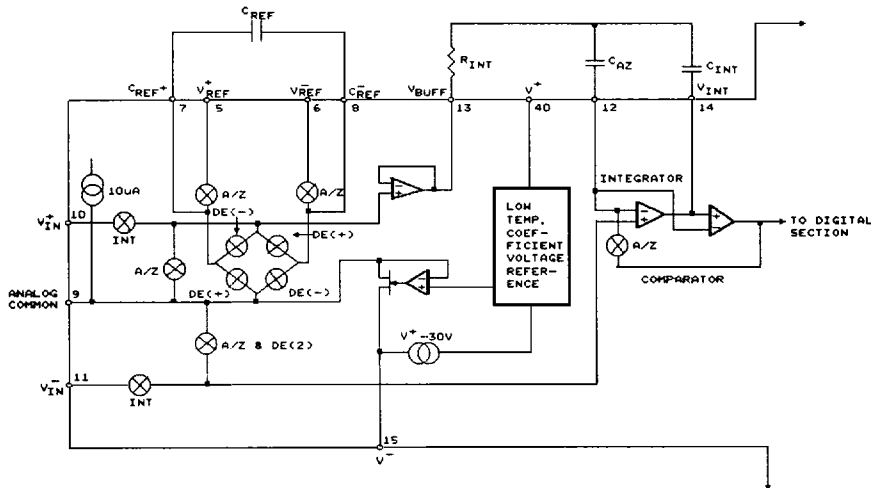

Figure 1. UM7106R/07AR/07BR Analog Section
Fig. 1 shows the block diagram of the Analog Section for UM7106R and UM7107AR/BR. Each measurement cycle is divided into three parts. They are (1) Auto-zero [A-Z] (2) Signal integrated [INT] (3) Deintegrated [DE].